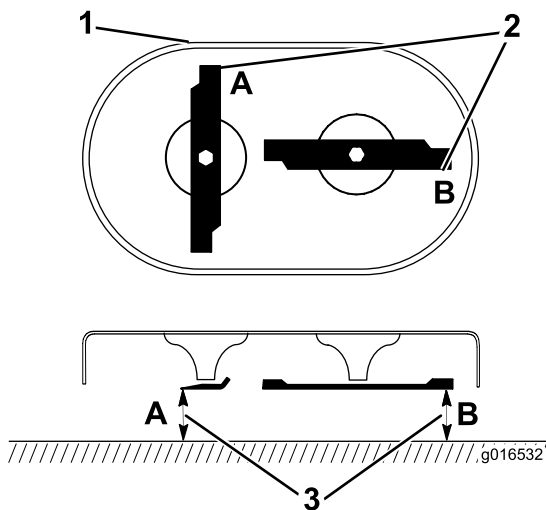

Figure 42
1. Rotate the blades until they are positioned as shown in Figure 42.
2. Measure from a level surface to the cutting edges at locations **A** and **B**, (Figure 42), and record both dimensions.